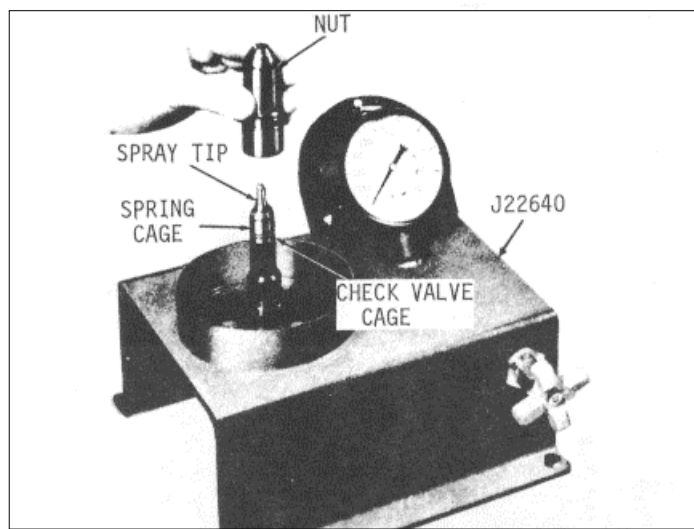

Fig. 18
- (2) Assemble cleaned injector parts, including the check valve cage, spring, spring seat, spring cage and spray tip assembly, on the auxiliary tester J 22640 (Fig. 18).
- (3) Carefully pilot the injector nut over the spray tip and valve parts and thread it on the auxiliary tester.
- (4) Tighten the injector nut.
- (5) Open the valve on the auxiliary tester and place lever 4 in the up (horizontal) position.
- (6) Install the shield on the auxiliary tester and operate pump lever 1 until the needle valve has opened several times to purge the air from the system.
- (7) Operate pump lever 1 with smooth, even strokes and note the pressure on gauge 1 when the needle valve opens. The valve should open between 2300 and 3300 psi. The opening and closing action should be sharp and produce a finely atomized spray.